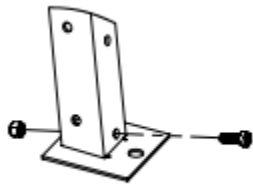

Fig 8
13. Attach tower feet to remaining tower legs with 3/8 x 1" bolts & 3/8" nylon lock nuts. Do not tighten these at this time. (Fig 8)